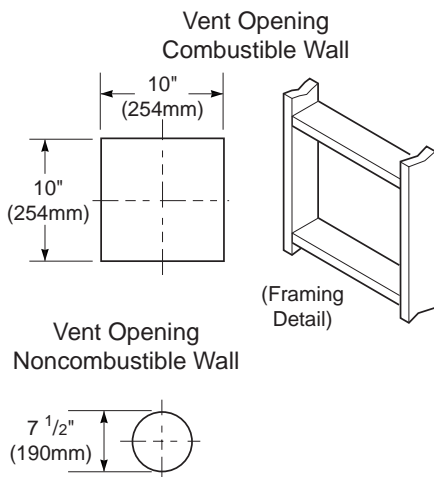

Figure 12 - Vent Opening Requirements
- Attach vent pipe assembly to the fireplace. Set fireplace in front of its permanent location to insure minimum clearances. Mark the wall for a 10" square hole (for noncombustible material such as masonry block or concrete, a 7 1/2" diameter hole is acceptable). See Figure 12. The center of the hole should line up with the centerline of the horizontal rigid vent pipe. Cut a 10"x10" (254mm x 254mm) square hole through combustible exterior wall (7 1/2" [190mm] diameter hole if noncombustible). Frame as necessary (see Figure 12).
1. Cut a 10" square hole in the ceiling using the locating hole as a center point. The opening should be framed to 10"x10" (254mm x 254mm) inside dimensions, as shown in Figure 12 on page 9 using framing lumber the same size as the ceiling joists. If the area above the ceiling is an insulated ceiling or a room, nail firestop from the top side. This prevents loose insulation from falling into the required clearance space. Otherwise, install firestop below the framed hole. The firestop should be installed with no less than three nails per side (see Figure 22).
3. Cut a hole in the roof using the locating hole as a center point. (Cover any exposed open vent pipes before cutting hole in roof.) The 10"x10" hole must be measured on the horizontal; actual length may be larger depending on the pitch of the roof. There must be a 1" clearance from the vent pipe to combustible materials. Frame the opening as shown in Figure 12, page 9.